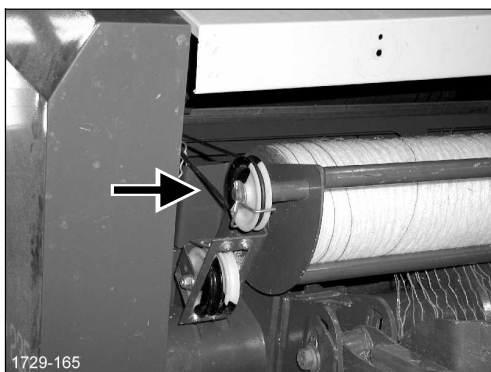

Figure 87
- ❑ Check net run on the guide roller (Figure 87). The tying process has been finished when the guide roller stops again.
- ☐ Check net run on the guide roller (Figure 87). The tying process has been finished when the guide roller stops again.